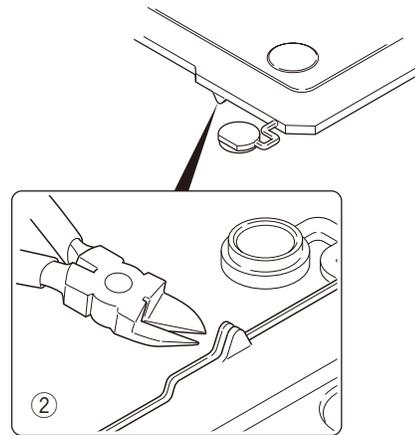

Fig. 6-3
**Note:** If the GPS receiver is installed, cut the base of the convex tab of the top packing with a pair of nippers, or similar tool. (Fig. 6-3 ②)